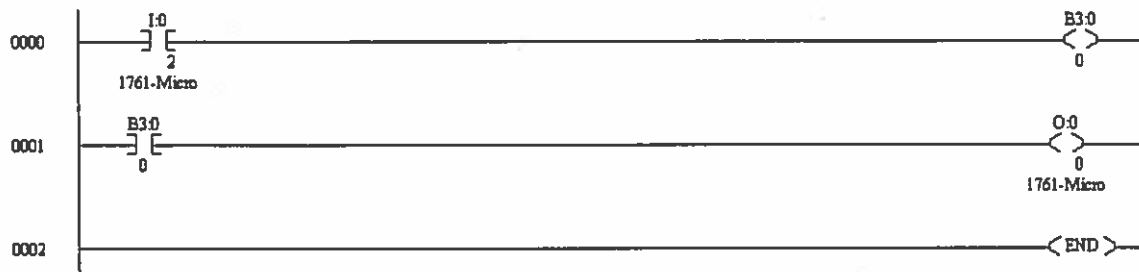

Figure 10-6
6. Examine the program in Figure 10-6.
10. Verify, Download, Go Online, and Run and operate the switch. Compare the operation of this program with the program in Figure 10-6.